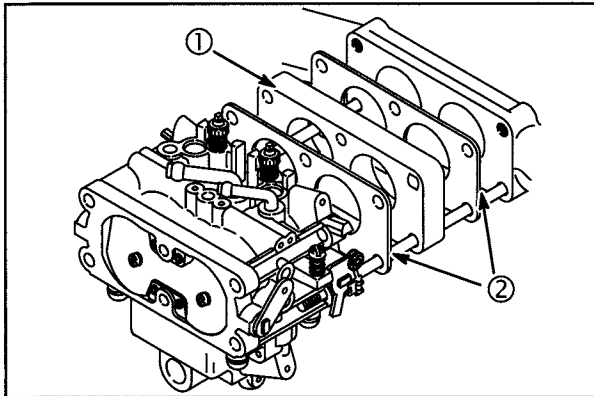

Fig. 24
1. Assemble gaskets (2) and spacer (1) to intake manifold.
2. Assemble carburetor onto mounting studs, **Fig. 24**.